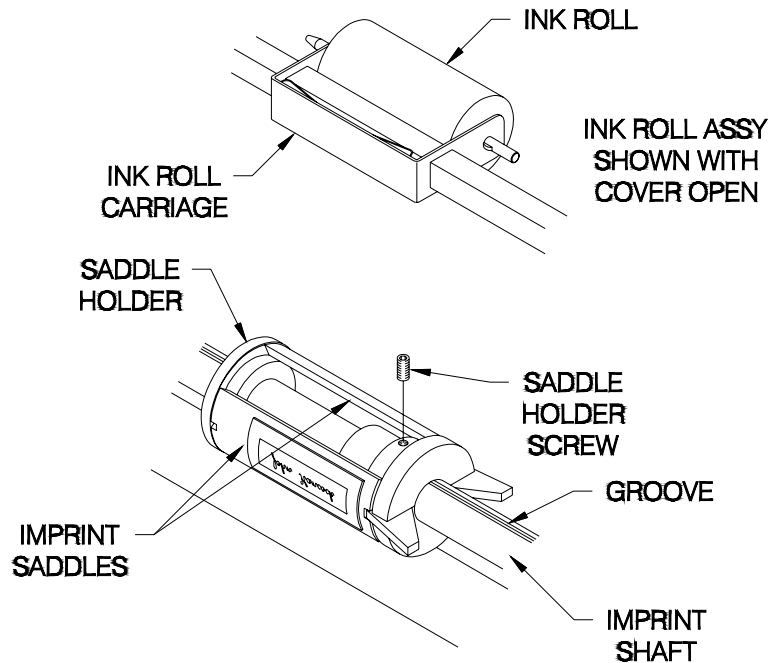

Figure 6.4 -- Setting Imprint Position Left / Right
Use the following instructions to move the imprint position left and right on the document. (Refer to **Figure 6.4.**)
3. Locate the **SADDLE HOLDER SCREW** midway between the two **IMPRINT SADDLES**. (Refer to **Figure 6.4.**)